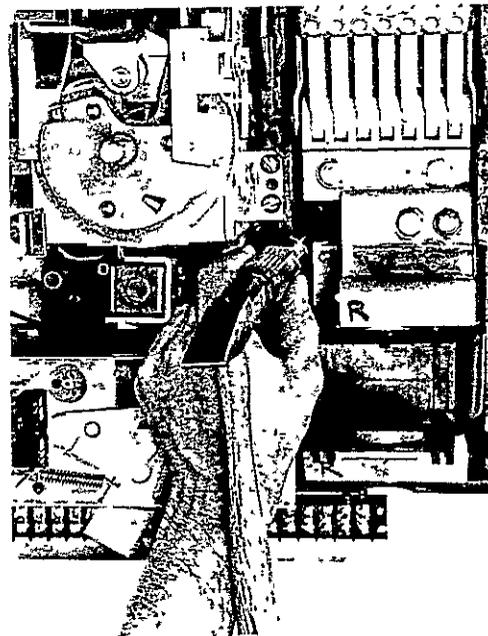

Fig. 5 View showing knockout method
- a. Remove the left knockout in right pole of the breaker base, using screwdriver and hammer as shown in Fig. 5.
- a. Remove right knockout in left pole of breaker base, using method shown in Fig. 5.